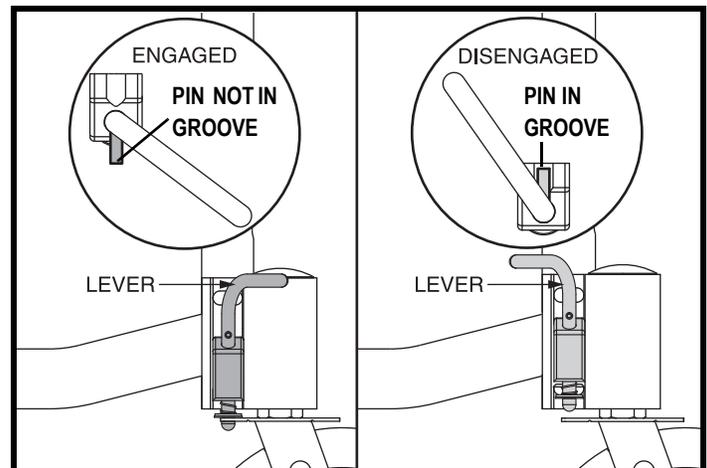

Figure 13. Caster Pin Lock Operation
1. Rotate the lever so that the securement pin is not in the groove to engage the caster pin lock. See **figure 13**.
2. Rotate the lever so that the securement pin is securely in the groove to disengage the caster pin lock. See **figure 13**.